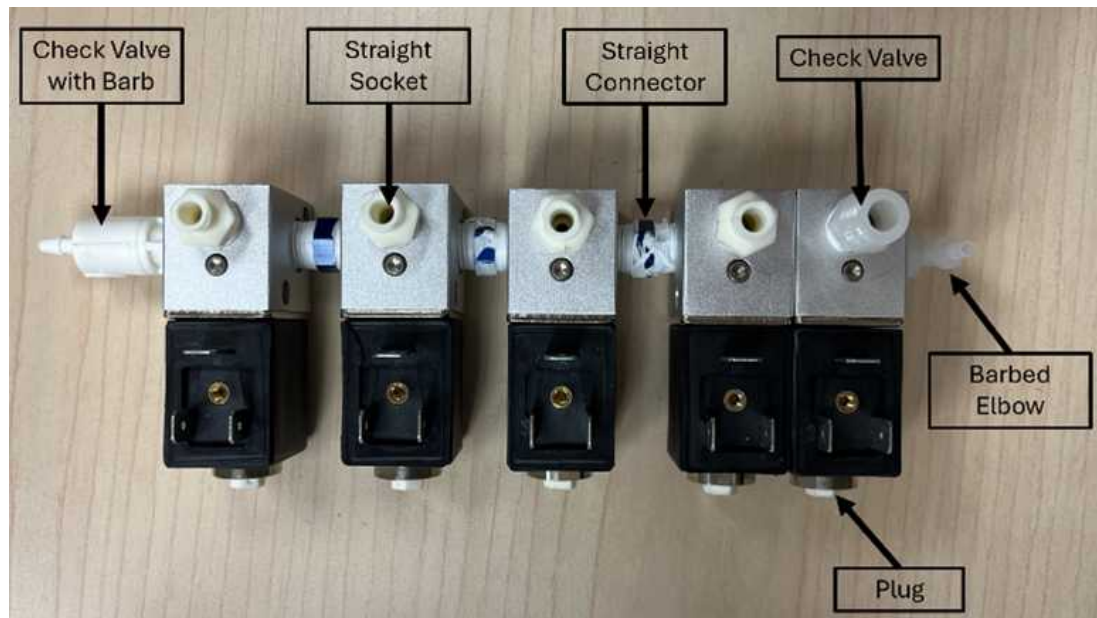

Figure 3. Solenoid valve plumbing assembly diagram.
- 5.4 Repeat with the other two straight connectors (Figure 3).
## 6 Connect the Nylon Check Valve to the top of purge valve (Figure 3).
## 7 Connect the Luer-Lock straight sockets to the top of valves 1-4 (Figure 3).
- 7.2 Carefully thread the Luer-Lock socket into the top hole of Valve 1 (Figure 3), making sure it is threaded in straight.
- 8 **Connect the check valve with hose barb to the side of the purge solenoid valve (Figure 3).**
- 9 **Connect the barbed elbow to the side of solenoid valve 4 (Figure 3).**